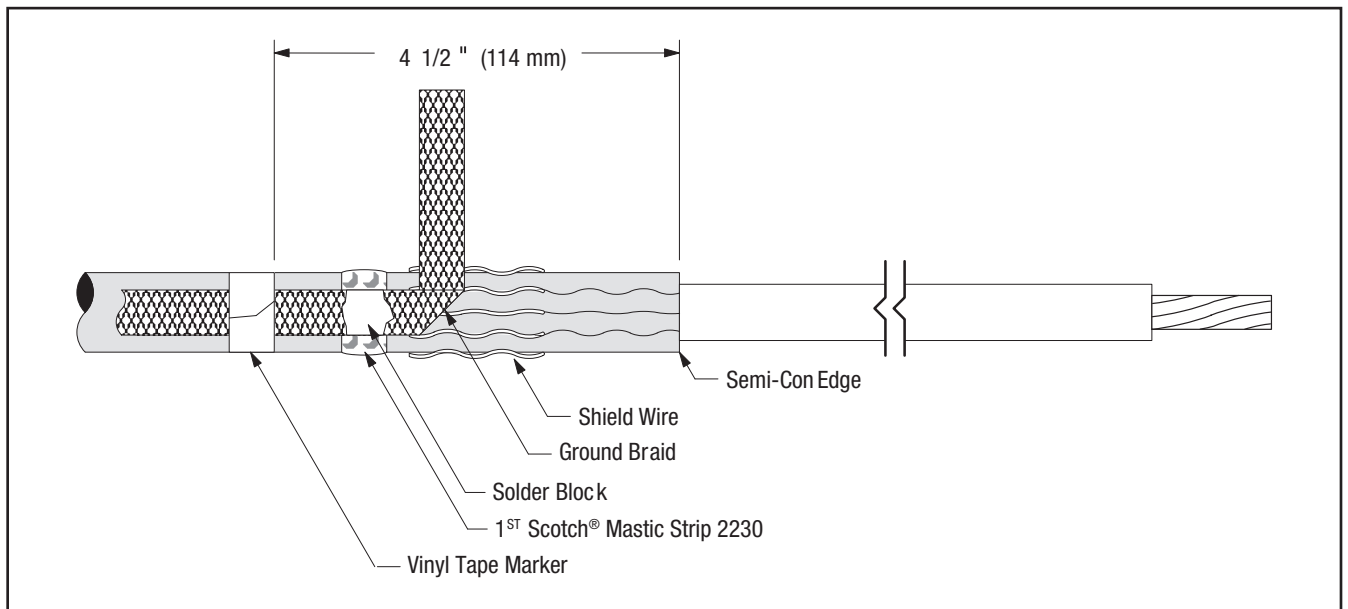

Figure 20
- 13.2 Position pre-formed ground braid with short tail directly over cut edge of folded back shield wires. Position long tail of ground braid, extending over cable semi-conductive jacket with solder block over mastic strip (*Figure 20*). Secure ground braid to cable semi-conductive jacket 4 1/2" (114 mm) from cable semi-con edge using vinyl tape (*Figure 20*).